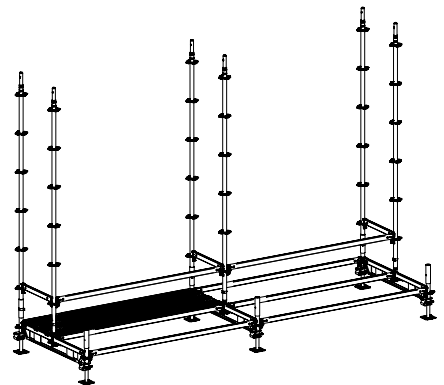

Fig. A4.04b
- Base Standard UVB (Fig. A4.04b)